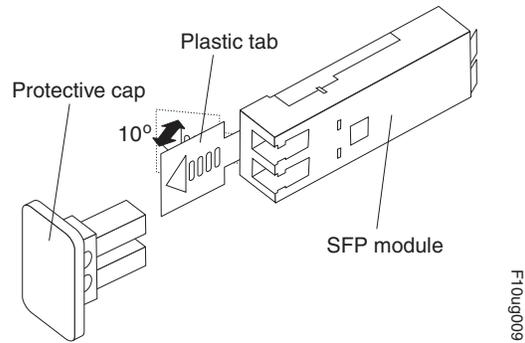

Figure 27. Unlocking the SFP module latch - plastic variety
- For SFP modules that contain plastic tabs, unlock the SFP module latch by pulling the plastic tab outward 10°, as shown in Figure 27 on page 45.